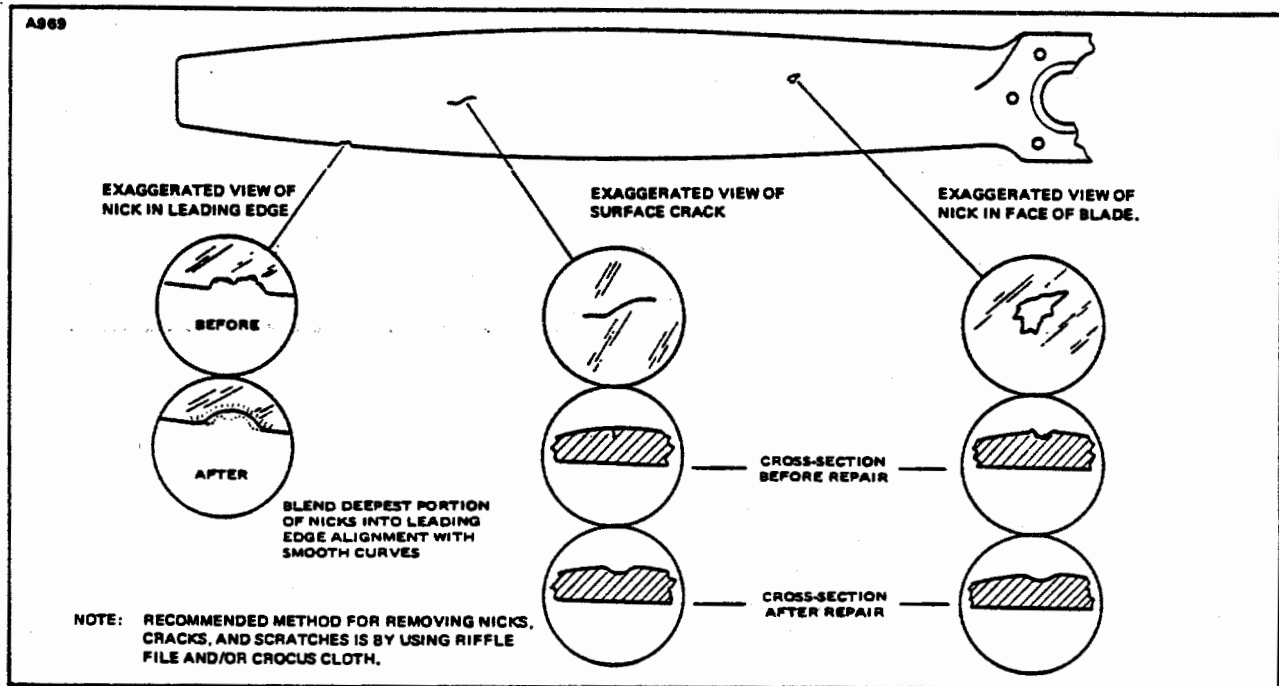

Figure 8-1. Typical Nicks and Removed Method
- Nicks in the leading edges of the blades should be filed out and all edges rounded, as cracks sometimes start from such places. Use fine emery cloth for finishing. (Refer to Figure 8-1 for propeller blade care.) A propeller with several nicks, scratches, corrosion or cracks should be returned to a propeller overhaul shop or the manufacturer for inspection and repair.